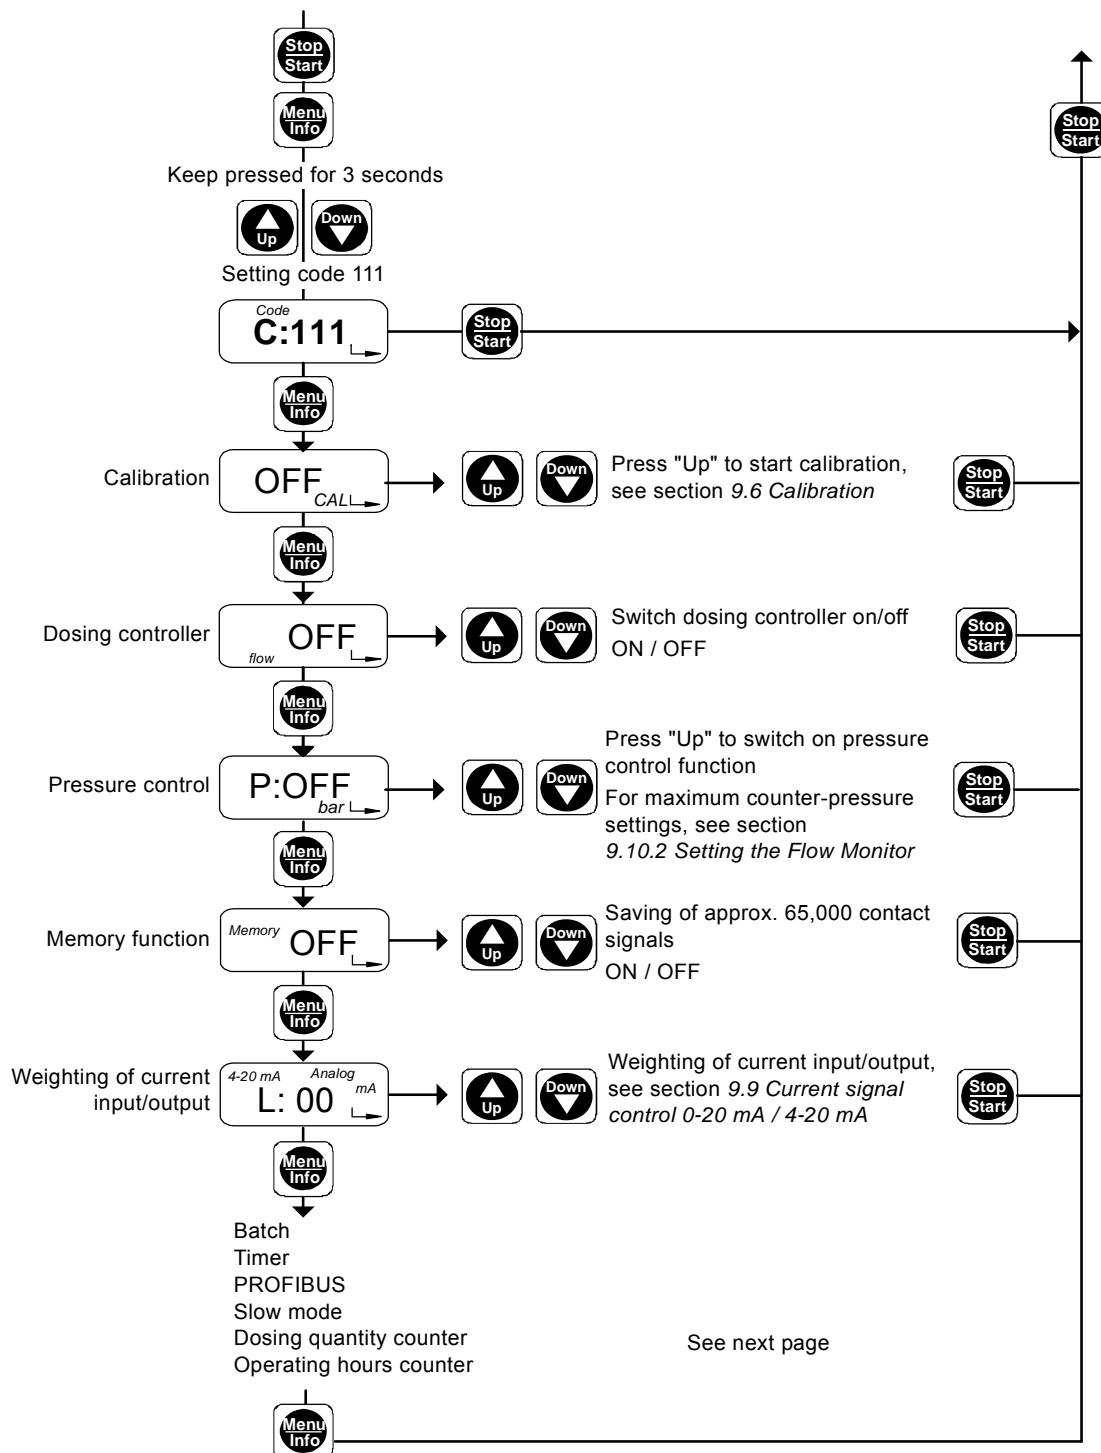

Fig. 28 Second function level, part 1
2. Use the "Up" and "Down" buttons to modify the settings in the relevant menu as shown in figs 28 and 29.